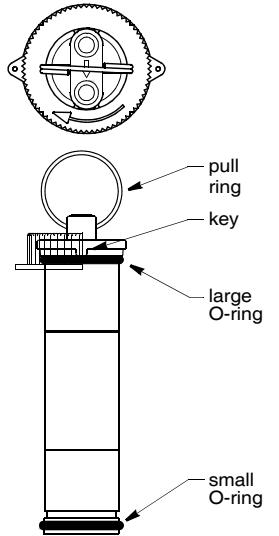

Figure 9. B122 insert/blanking plug
1. Slide the cap nut along the cable until it rests on top of the insert. Attach the pull ring capturing the cap nut (see Figure 9, 10, or 11). Attach the pull ring to the blanking plug in a similar fashion.
1. The O-rings must be intact and well lubricated to make a watertight seal. On the blanking plug, inspect the O-rings (replace if necessary) and lubricate them with the silicone lubricant supplied or petroleum jelly (Vaseline®) (see Figure 9).
B122, Blanking Plug—The O-rings must be intact and well lubricated to make a watertight seal. Inspect the spare O-rings and lubricate them with silicone lubricant or petroleum jelly (Vaseline®) (see Figure 9). Install the O-rings.